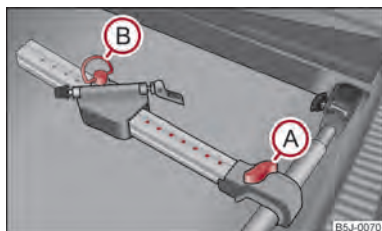

Fig. 57 Install bicycle carrier
- Position the approved bicycle carrier on the cross member, after pulling up the screw **A** ⇒ fig. 57 push the frame side rail (alu-part) towards the cross member until the socket latches, and screw the screw **A** into the nut.
- Slacken the screw **A** ⇒ fig. 57 and push the bicycle holder together with the attached bicycle to the left (in the direction of the arrow), so that no collision between the steering arm and the side window of the luggage compartment can occur.